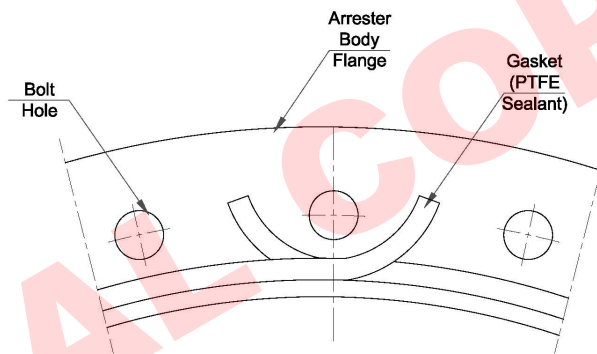

Figure 3 – Gasket Installation (Plan View)
3. Overlap or cross the ends of the sealant to complete the seal. Refer to Figure 3.